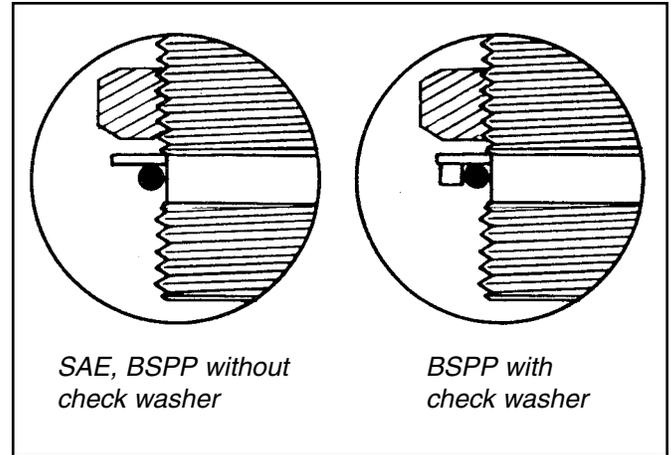

Figure 5.8 Position O-ring near Locknut
1. Verify the O-ring and back-up washer are on the non-threaded section nearest to the locknut. See Figure 5.8.